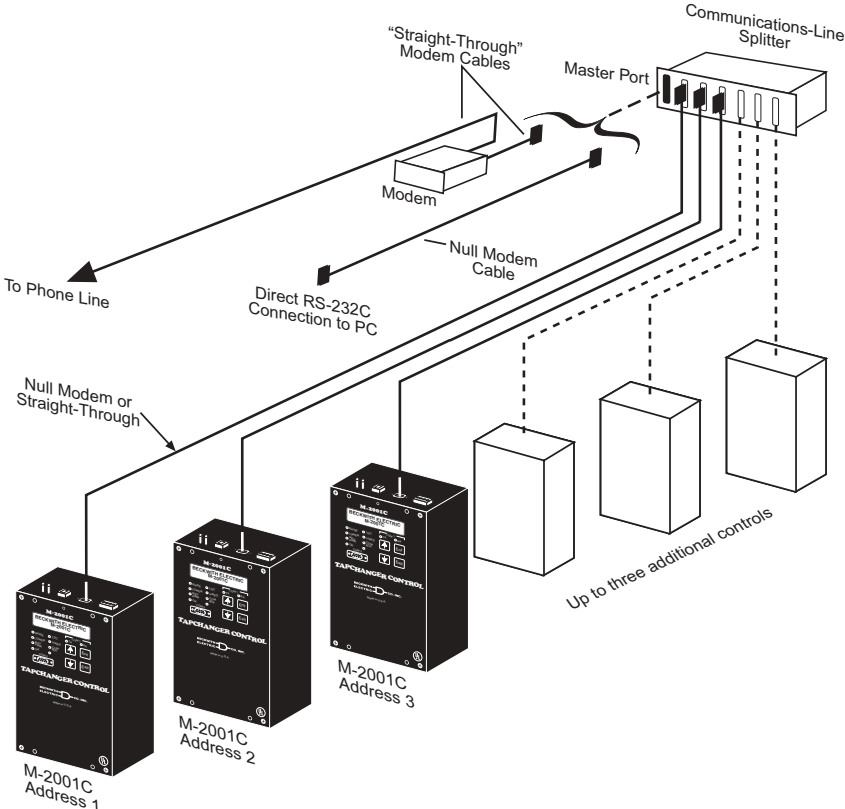

Figure 3 Network Connection
**Communications Using Networking:** The addressing capability of TapTalk allows networking of multiple Beckwith Electric digital tapchanger controls (COM1 or COM2, COM1 shown). Each tapchanger control can be assigned an address ranging from 1 to 200. Selected commands may be broadcast to all controls on the network. Figures 3, 4, and 5 illustrate typical network configurations.